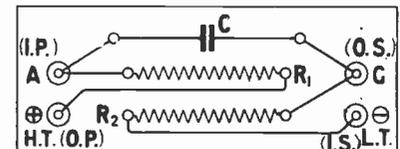

Fig. 3.—The wiring of the Resistocap Unit.
A wiring diagram of the Resistocap Unit is shown in Fig. 3. It will be seen that its four terminals correspond to those of a low-frequency transformer, so that connections can be made without difficulty. If the circuits are traced out it will be seen that the plate is connected *via* the terminal marked A, both to the coupling condenser (C) and to the anode resistance R_1 , the other end of which is taken to the H.T. + terminal. The other side of the coupling condenser is connected to the grid terminal from which a connection is taken to one end of the gridleak R_2 , the other end being connected to the L.T. - terminal.